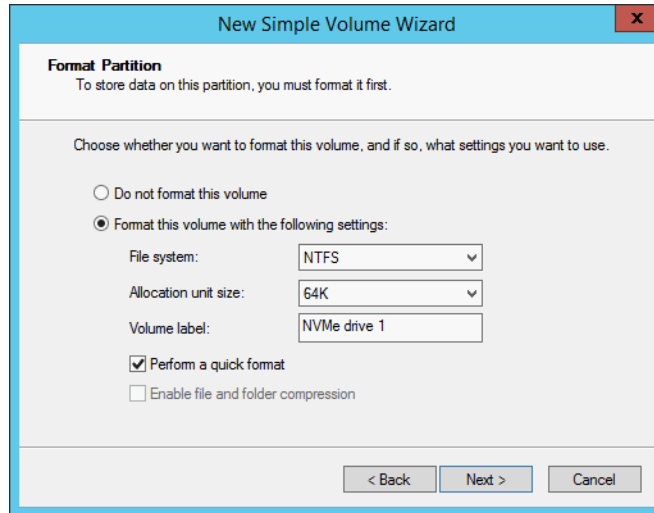

Figure 5-54 Format partition
7. You must format the new volume and specify the file system parameters, such as block size and volume label, as shown in Figure 5-54.